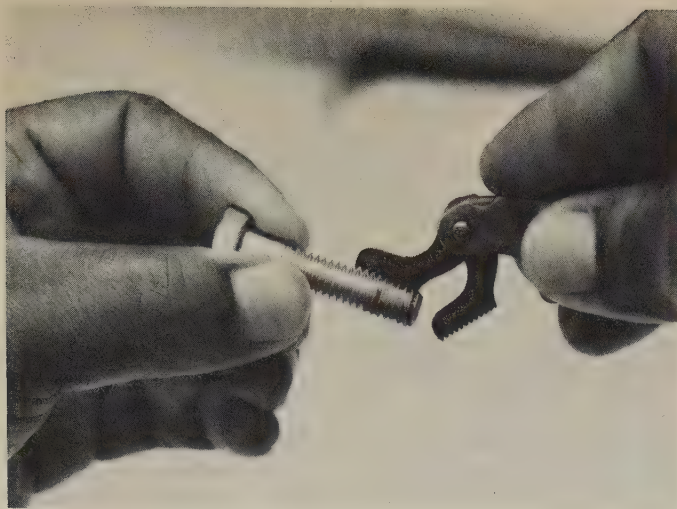

FIG. 4-4 Using a thread gauge.
**○ 4.8 PITCH** Pitch is the number of threads per inch. In addition to using a ruler to count the number of threads per inch, you can also use a thread gauge. To use the gauge, find the blade that has the proper number of teeth to fit the threads, as shown in Fig. 4.4. The blade is marked with the pitch, or number of teeth per inch.